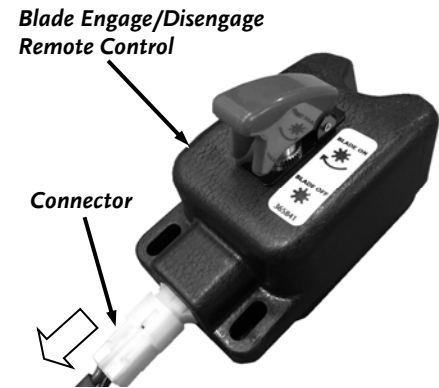

Figure 23
1. Remove the Connector from the Blade Engage/Disengage Remote Control (**Figure 23**).
9. Plug the Connector into the Blade Engage/Disengage Remote Control (**Figure 23**).